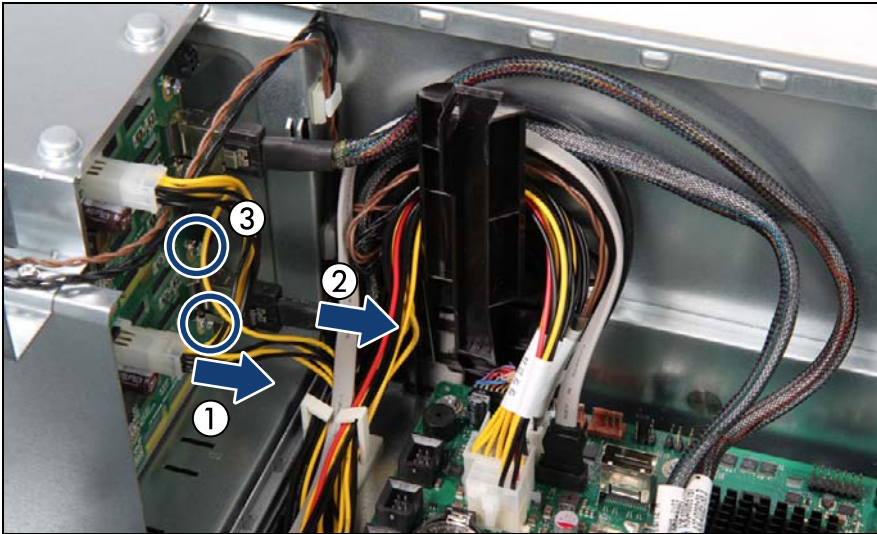

Figure 72: Disconnecting cables
- ▶ At a slight angle, fit the SAS backplane into the two guides on the HDD cage (1).
- ▶ Fold down the SAS backplane (2).
- ▶ Secure the SAS backplane with the two screws (see figure 72).
- ▶ Connect the power cable and the SAS cable to the SAS backplane (see figure 72).